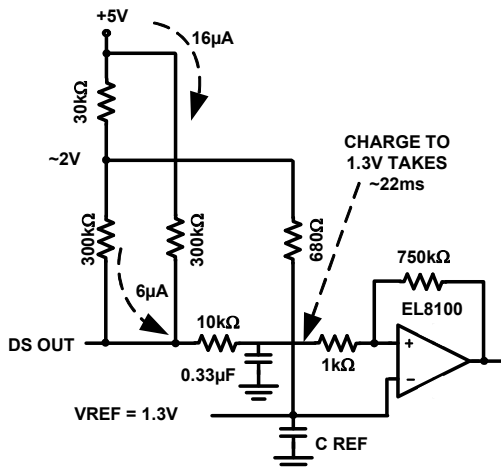

FIGURE 5. NON-VIDEO DELAY CIRCUITRY
The incoming video may come from a cable source with standard, double or no termination. This will cause the H_{SYNC} tip to change from 286mV to double or reduce to 2/3. The back porch is always at 0V, so it is the most stable reference point. The back porch pulse is from the sync separator to the DC restore to set the back porch to 1.3V. The 1.3V allows the sync double level of 572mV times an amplifier gain of 2 to have a 1.14V H_{SYNC} tip and 160mV above ground so not to induce clipping. The black level can be 54mV x 2 for no termination and x 2 for amp gain to give 216mV. The video from the amp output is internally connected to the Data Slicer (DS) inverting input. The data slice detector can have the DS Ref set to approximately 250mV. If the EL4501 amp gain is 1, the DS REF can be approximately 145mV. Figure 5 is for an amplifier gain of 1.